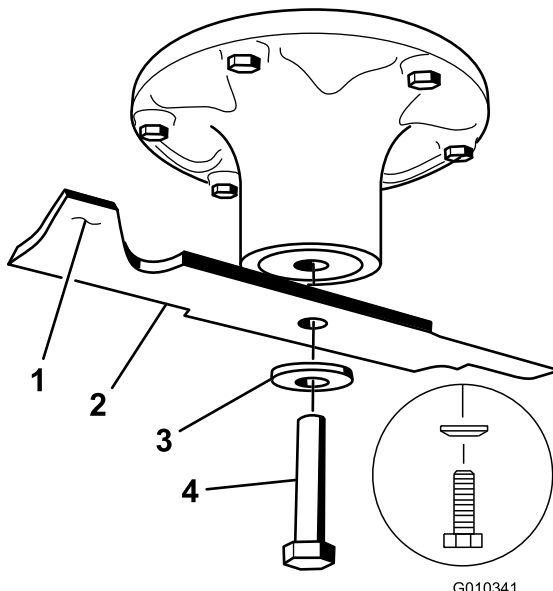

Figure 68
2. Remove the blade bolt, curved washer, and blade from the spindle shaft (Figure 68).